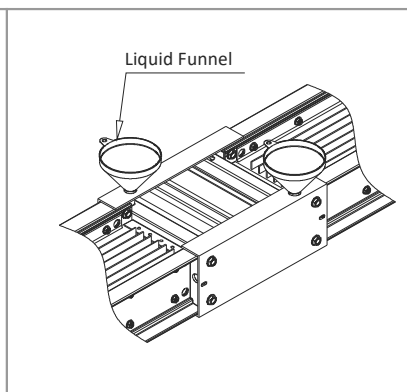

Figure 10.4
6. Concurrently pour the mixed compound into both holes using liquid funnel until full as shown in Figure 10.4. Complete cure time is in 8-12 hours @ 25°C or 1 hour @ 80°C.